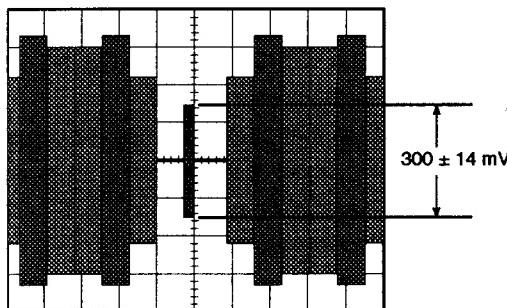

Fig. 5-1-17
- Adjust VR9 so that the Burst Level becomes 300 ± 14 mV as shown in Fig. 5-1-17.